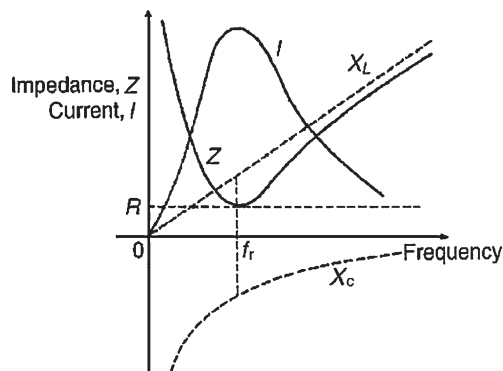

Figure 15.21
- Typical graphs of current  $I$  and impedance  $Z$  against frequency are shown in Fig. 15.21